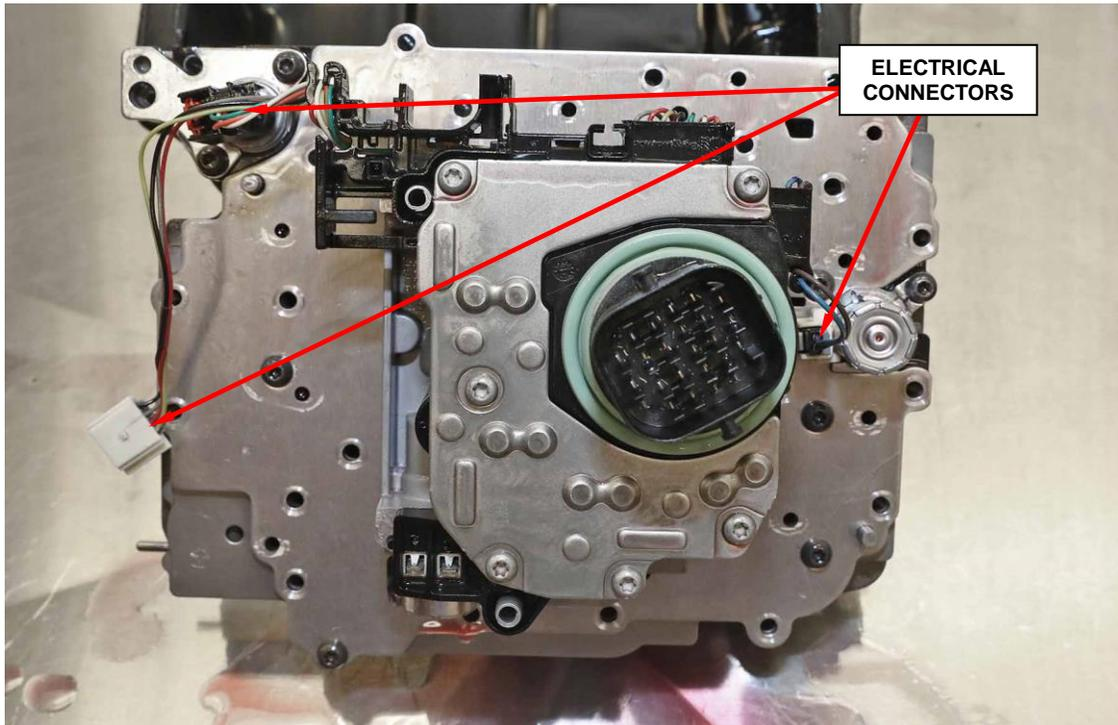

Figure 7 – Electrical Connectors
25. Connect the electrical connectors to the pressure control solenoid and line pressure sensors (Figure 7).